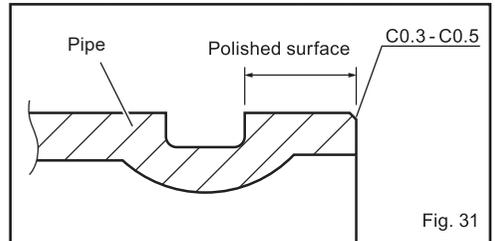

Fig. 31
- If necessary, the outer periphery of the pipe end face is cut with a disc grinder or the like to a size of C 0.3 - 0.5 mm. Please chamfer at 45°. There is a possibility of scratching the packing of the fitting when the edge is standing. (Fig. 31)